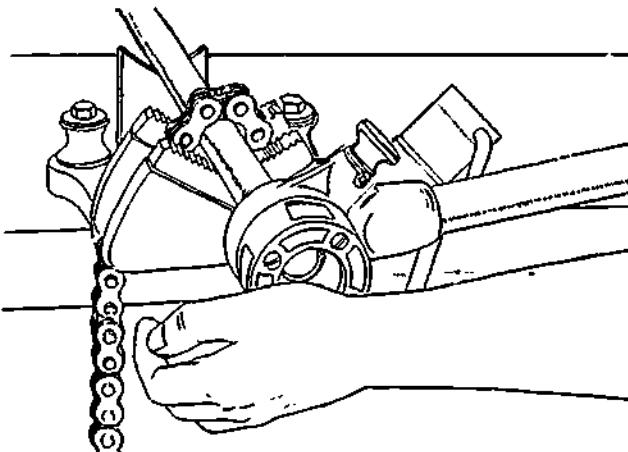

Figure 7-26. Pipe Threader Requiring Applied Force
- c) Some threaders, as in Figure 7-26, require that considerable force be applied to the face to get the dies started on the pipe: